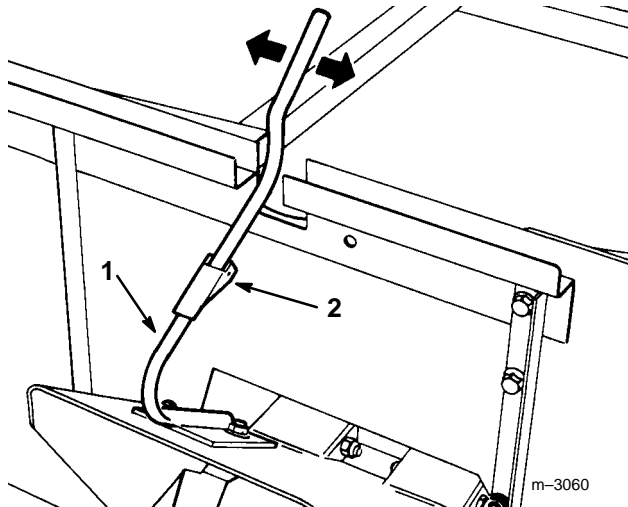

Figure 8
3. Raise the deflector and move the lockout rod back and forth along the course of the line you drew on the deflector until the rod is centered in the back panel slot (Fig. 8).
6. Hook the lockup latch (Fig. 8) on the bag tube.